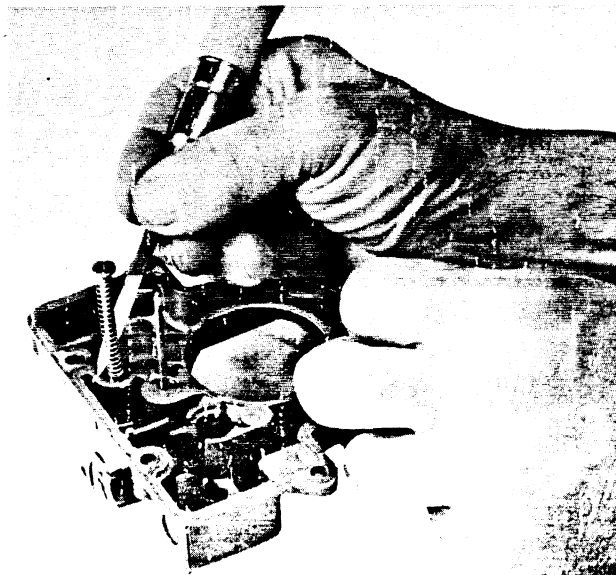

FIG. 22 Remove Staking from Vacuum Piston Retainer
7. With a bearing scraper or a scraper ground from an old triangle file remove all the staking from the vacuum piston retainer (Figure 22).